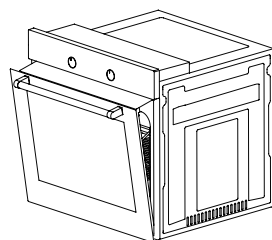

Figure 17
2. Locate the two mounting tabs on the heat shield into the two slots under the control panel, then secure in place between oven and inner door by gently closing the door. (figure 17)